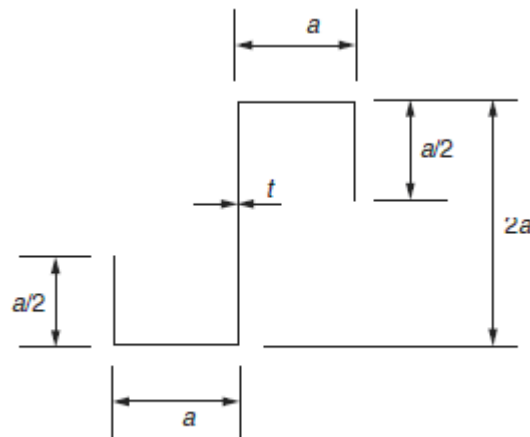

Figure 5:
1. A thin-walled cantilever beam of length L has the cross-section shown in Figure 5 and carries a load P positioned as shown at its free end. Determine the torsion bending constant for the beam section and derive an expression for the angle of twist θ_T at the free end of the beam. Calculate the value of this angle for $P=100$ N, $a=30$ mm, $L=1000$ mm, $t=2.0$ mm, $E=70\,000$ N/mm² and $G=25\,000$ N/mm². [16]